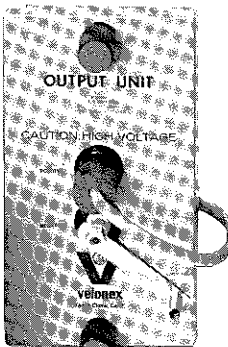
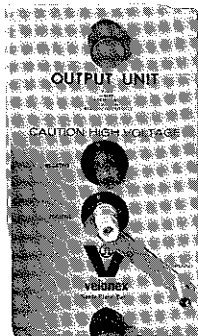

Figure 1a.
Figure 1b.
(1) Add "U" suffix for isolated (floating) output, per Fig. 1b; see Applications Bulletin No. 115.
(2) Where one No. spans both + and - columns, unit may be used for either polarity by grounding one terminal.
(3) In non-burst mode.
(4) Useable to 1.5% on Model 350-E.
(5) These generators contain built in 1000:1 voltage dividers.
(6) At full rated pulse width. Droop is significantly less at shorter pulse widths.
(7) HV Receptacle (AMP LGH-3) with mating 16" HV lead; 5-Way Binding Post. See Figure 1a.